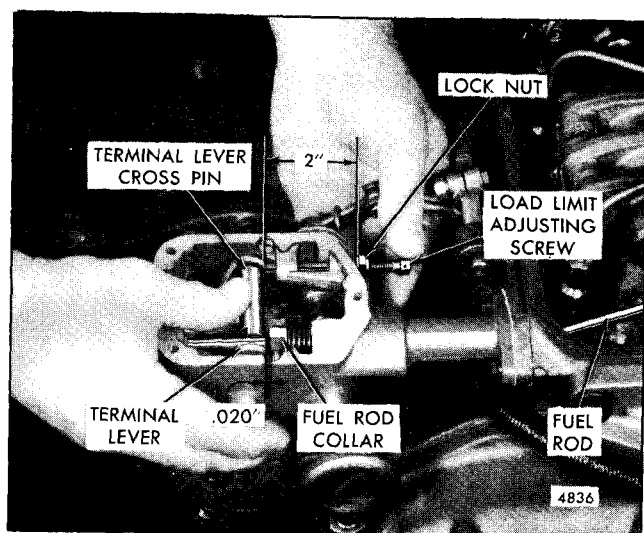

Fig. 3 - Adjusting Load Limit
1. Loosen the load limit screw locknut (Fig. 3) and adjust the load limit screw to obtain a distance of approximately 2" from the outside face of the boss on the governor sub-cap to the end of the screw.
2. Place the fuel rod and terminal lever in the full-fuel position (Fig. 3).